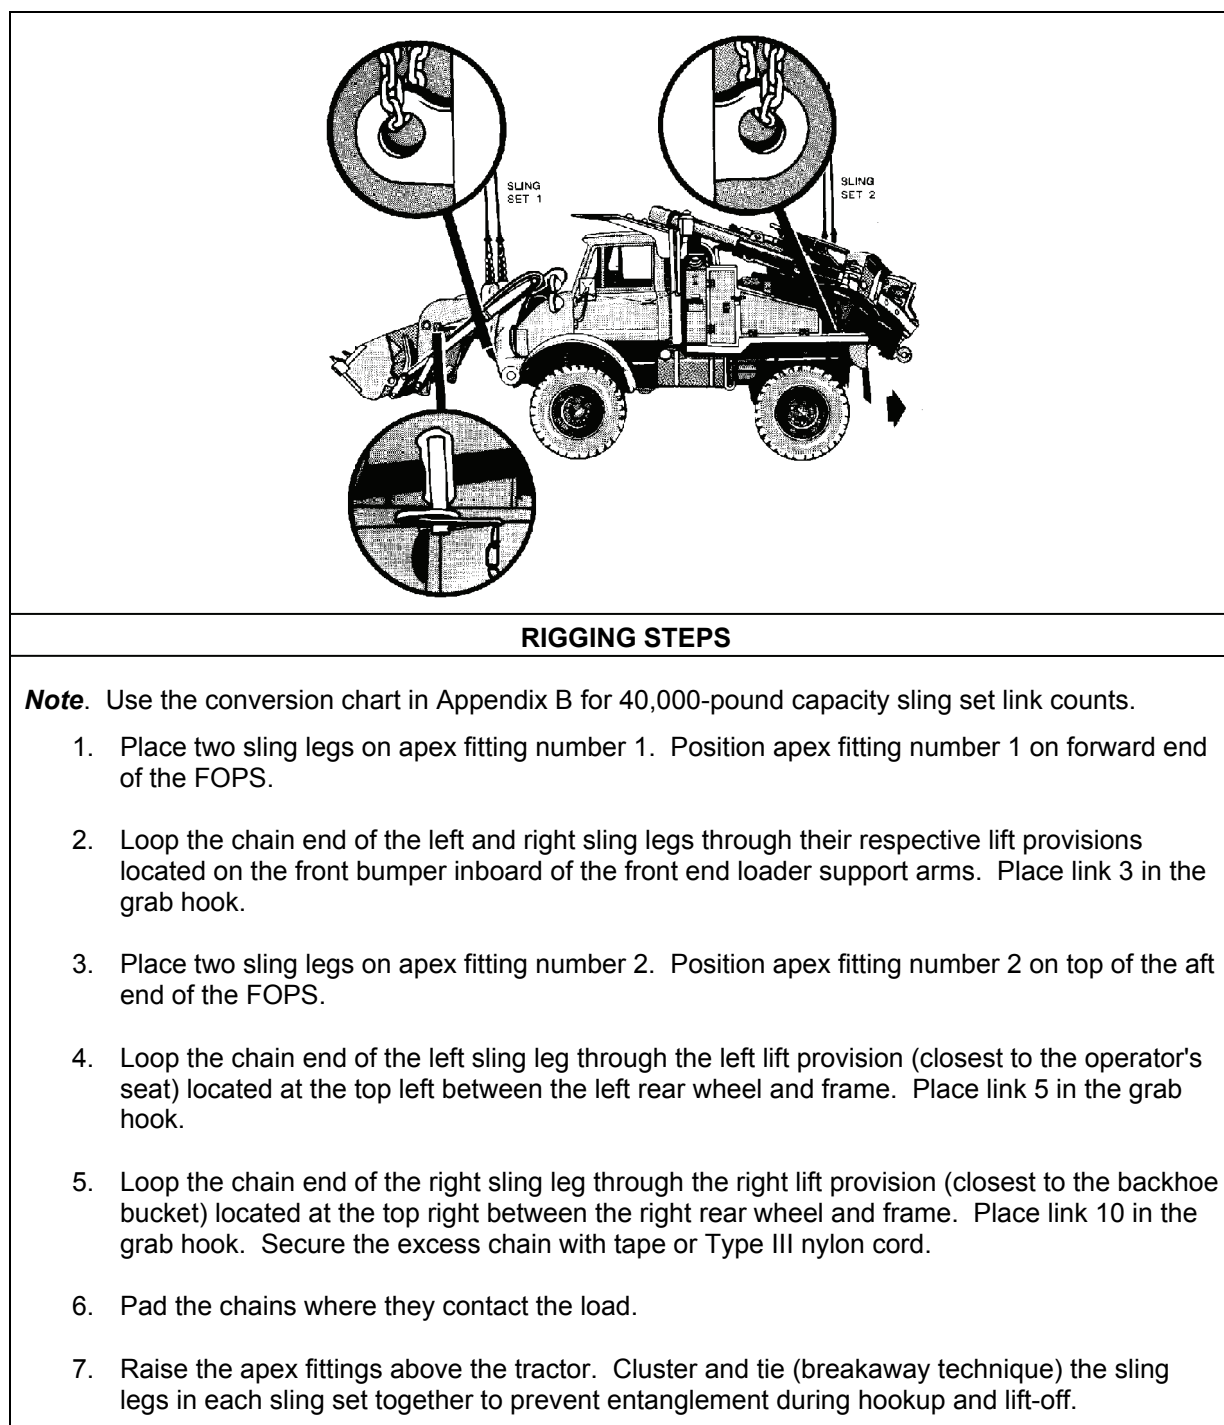

Figure 8-8. Small Emplacement Excavator
- **Rigging.** Rig the load according to the steps in Figure 8-8.